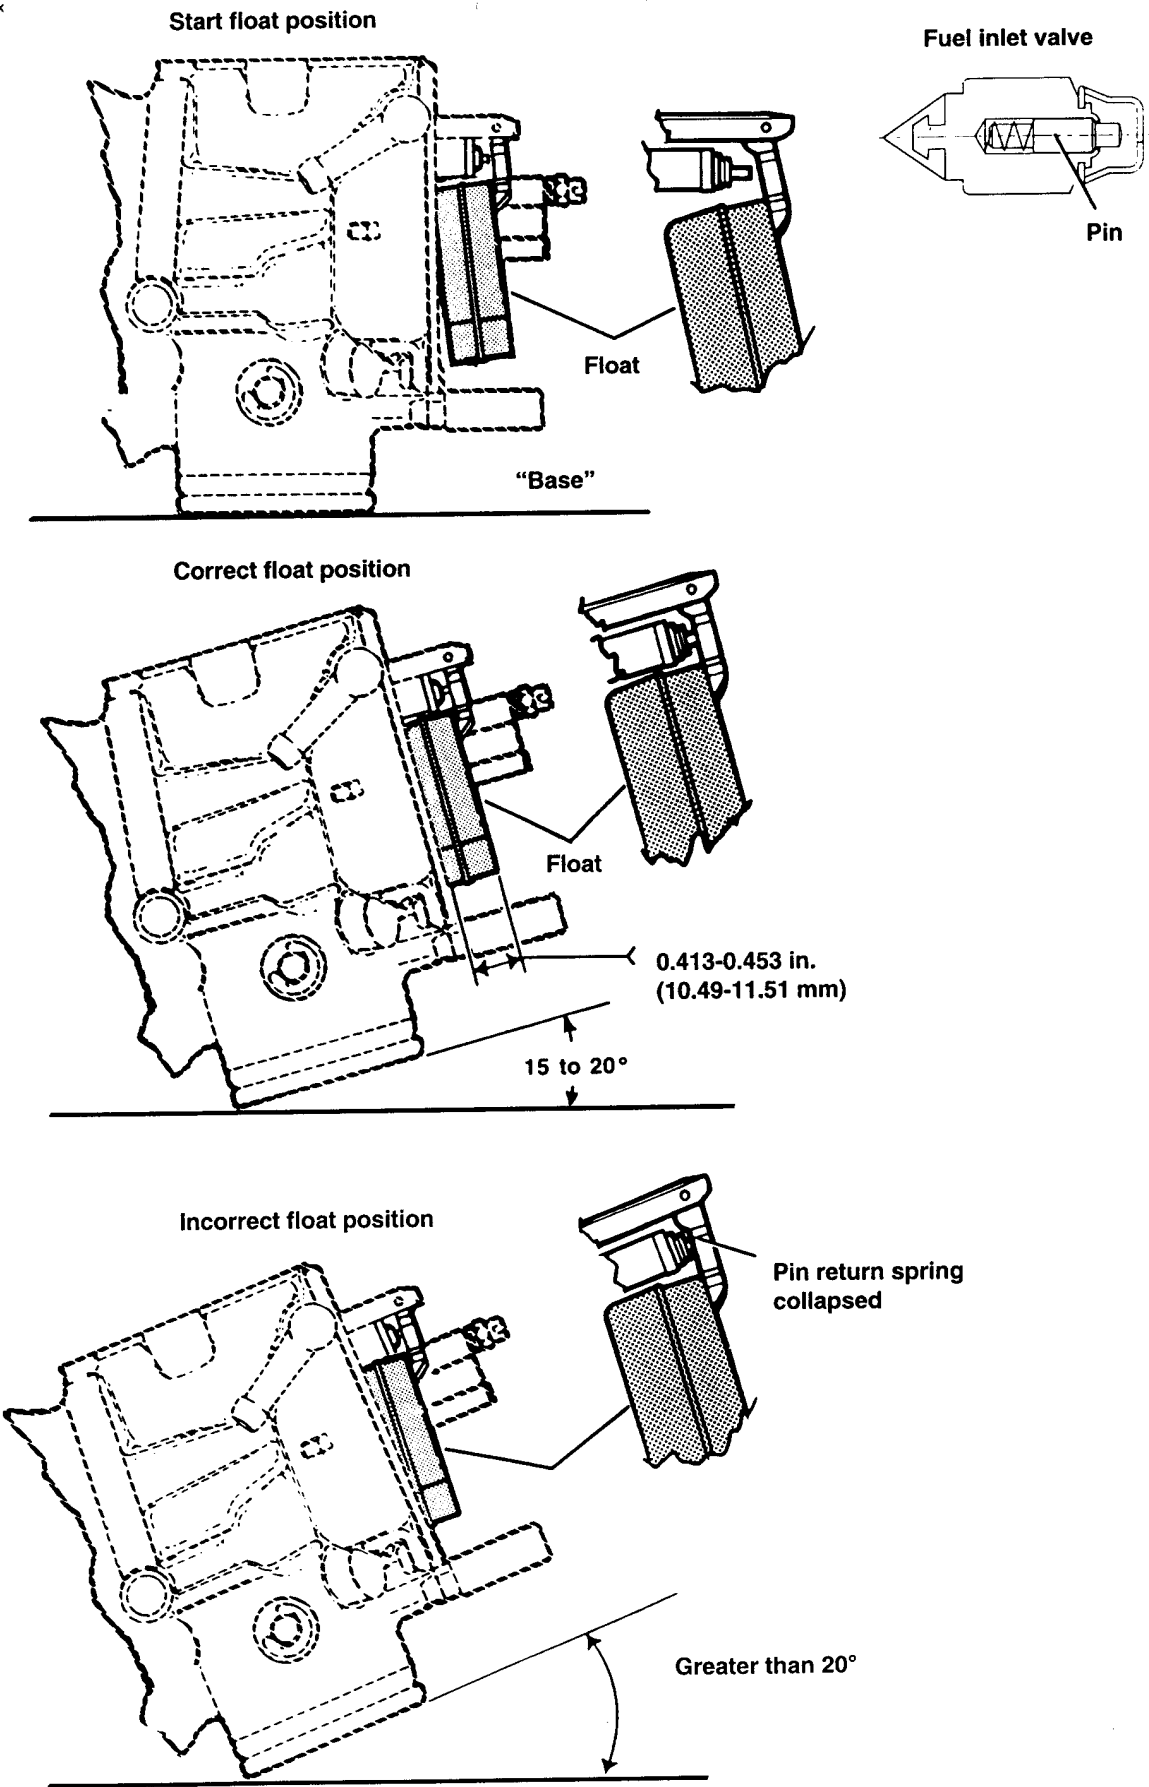

Figure 4-10. Adjusting Carburetor Float
3. See Figure 4-10. Place the carburetor on a flat, clean surface on the engine manifold side. This is the "base". Tilt the carburetor 15° to 20° from base.